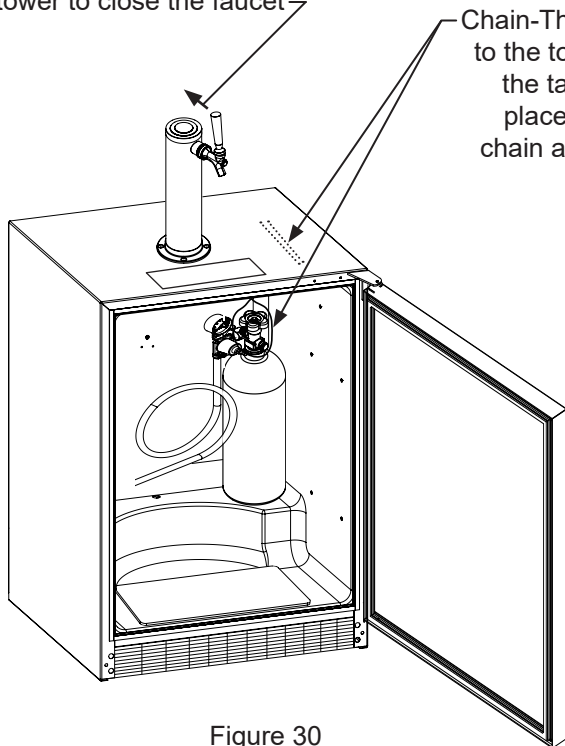

Figure 30
5. Mount the regulator to the gas tank (connection (B)). Note that the regulator has left hand threads and has to be turned counterclockwise to tighten. Tighten with the adjustable wrench or the 1 $\frac{1}{8}$ " open end wrench.
6. Connect the red air line(s) from the regulator to the **large** air line fitting on the keg coupler with a **large** hose clamp (connection (C)).
7. Connect the clear beverage line from the tower to the **small** air line fitting on the keg coupler with a **small** hose clamp (connection (A)).
8. Locate the gas tank in the corner of the refrigerator as shown in Figure 30 and secure with the chain. Close
2. Be sure the faucet handle is closed on the tower (see Figure 30).